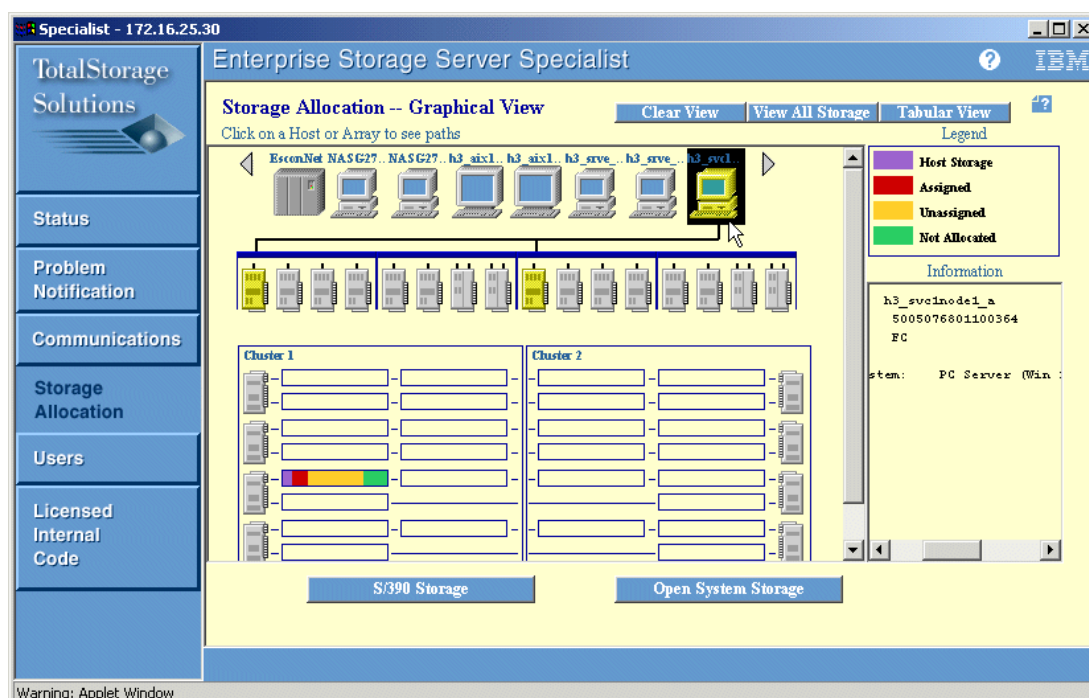

Figure 3-19 Viewing the two paths
8. Share the volumes across both ports in the ESS. Now the volumes are presented to the SVC on both ports. You can find the mDisks on the SVC and rename them to a unique name identifying the origin. Consider the example of E1\_407\_14830 - ESS number 1,\_volume serial number in ESS 407-14830. You can add the mDisk to a MDG called ESS\_14830, for example. See Figure 3-19.